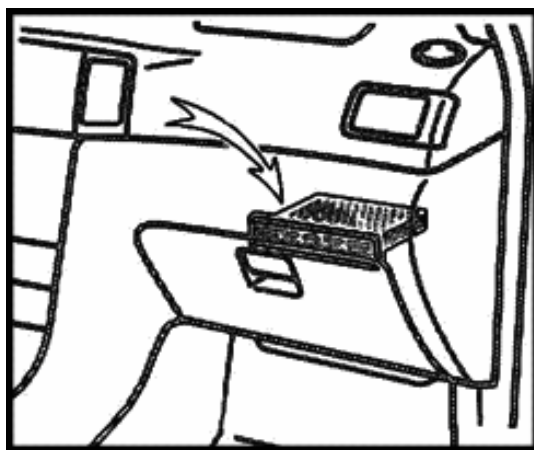

Figure 6-13
2. Take out the filter as shown in Figure 6-13.